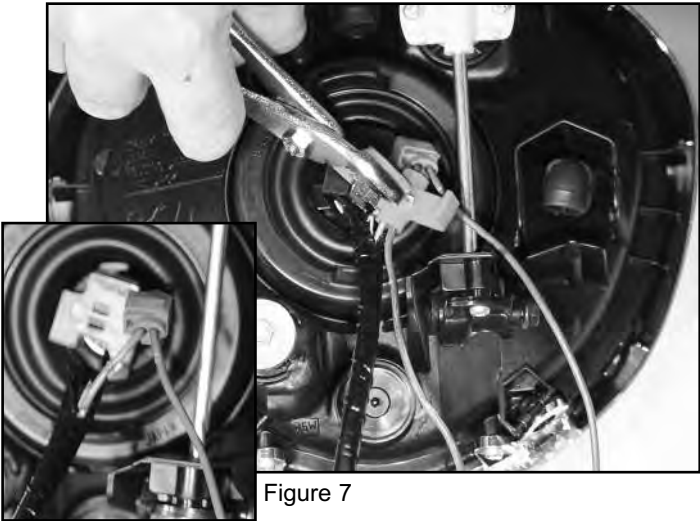

Figure 7
- 4. Use the U Connectors from Bag #868 to attach wires as recommended in the Wiring Chat below. Do one at a time and check for correct operation. **(Connectors and Pliers) Figure 7**